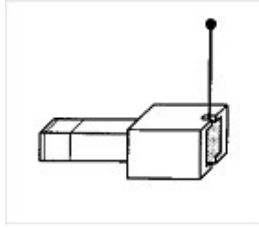

Figure 5
4. Carefully place the G-CAPSULE™ on a dry surface and puncture a small hole in the membrane of the Collection Port with the supplied pin (see Figure 5).